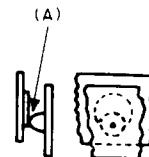

Fig. 5—Point And Disc Contact Alignment Showing Maximum Permissible Alignment
- (a) **Point and Disc Contacts:** Fig. 5(A)—The contacts shall line up so the point of contact falls wholly within the boundary of the opposing contact disc at all times during contact.